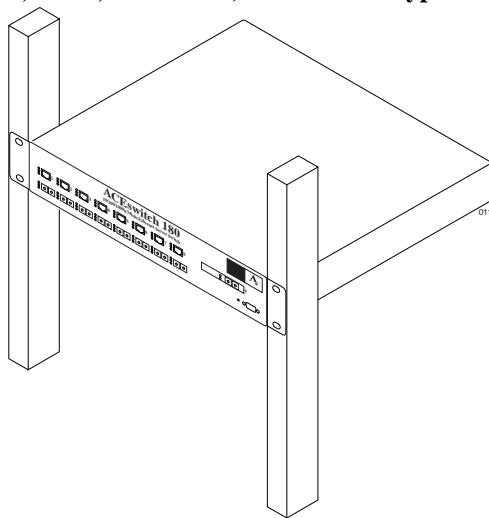

Figure 4 Rack Mounted Alteon 180e/dc
4. To install the unit in a rack, use the appropriate screws for your rack-mount system (four 10-32, 12-24, M5X.8-6H, or M6X1-6H type screws), as shown in **Figure 4**.